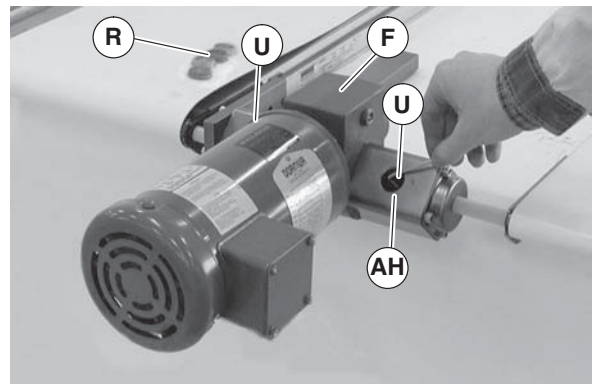

Figure 32
2. Jog motor and rotate coupling to align set screws (Figure 32, item U) with access hole (AH). Loosen set screws (U) on both sides of gearmotor assembly (F). Repeat for second set screws.